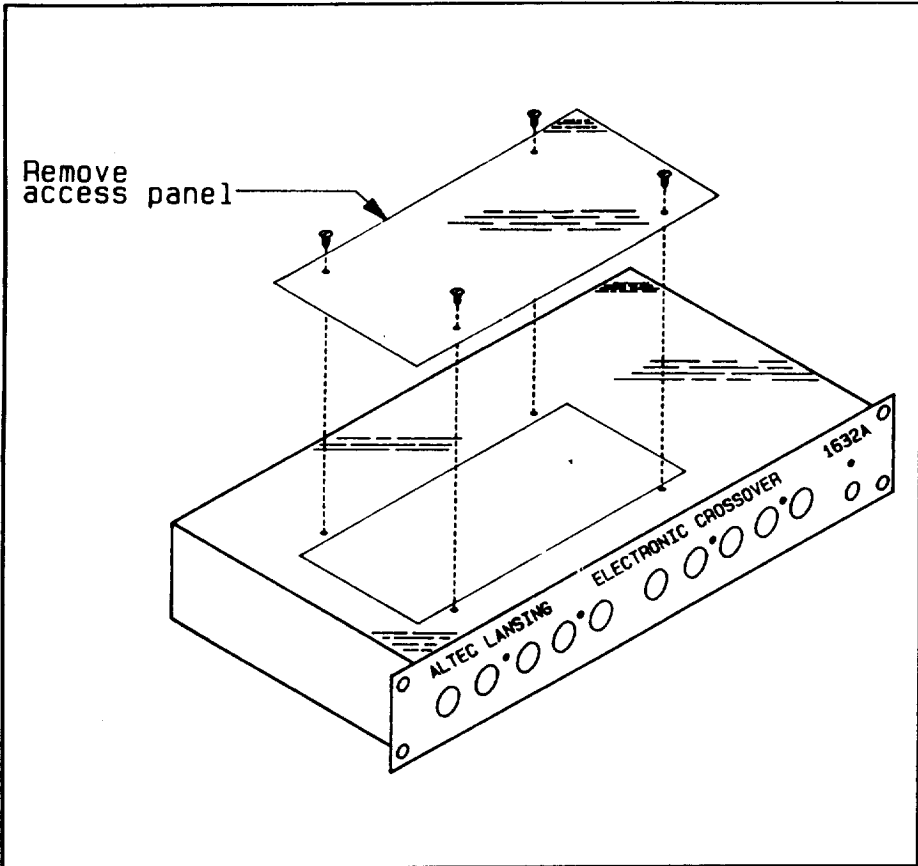
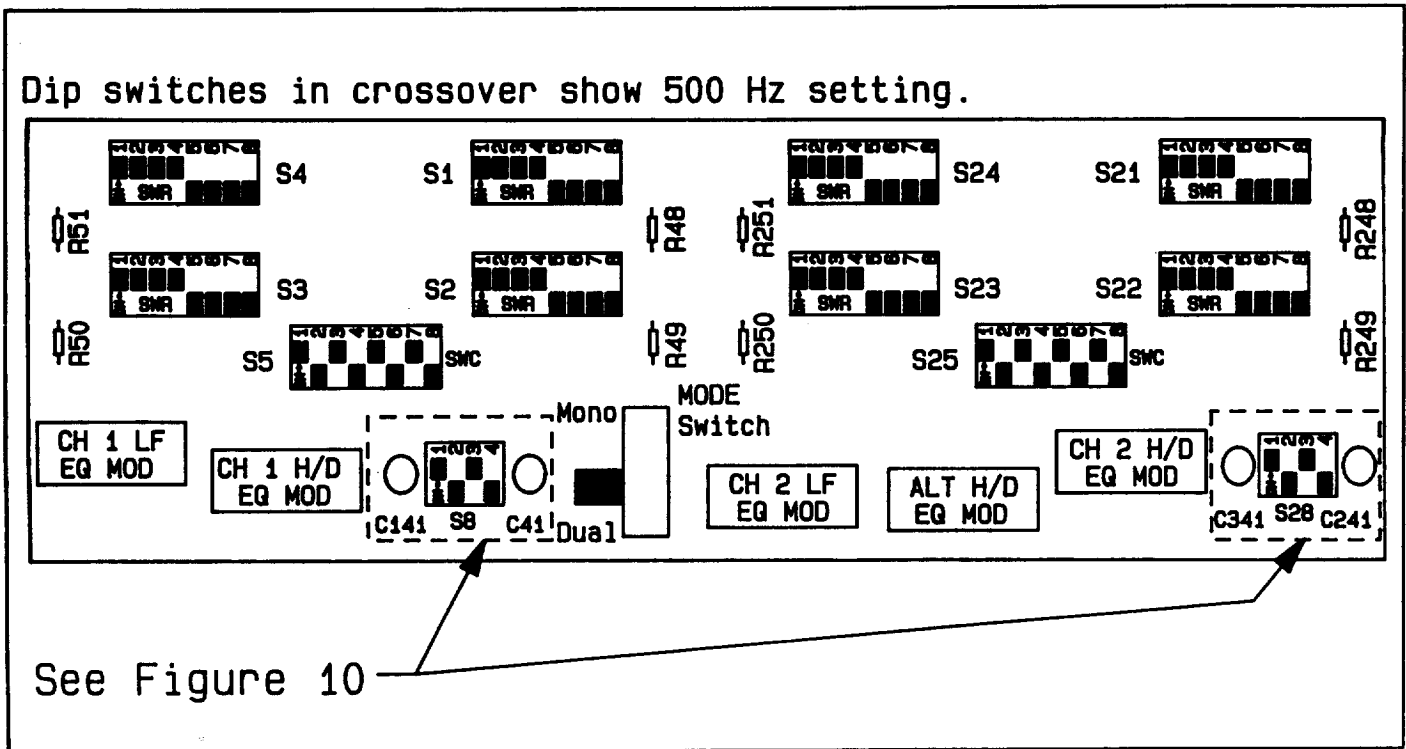
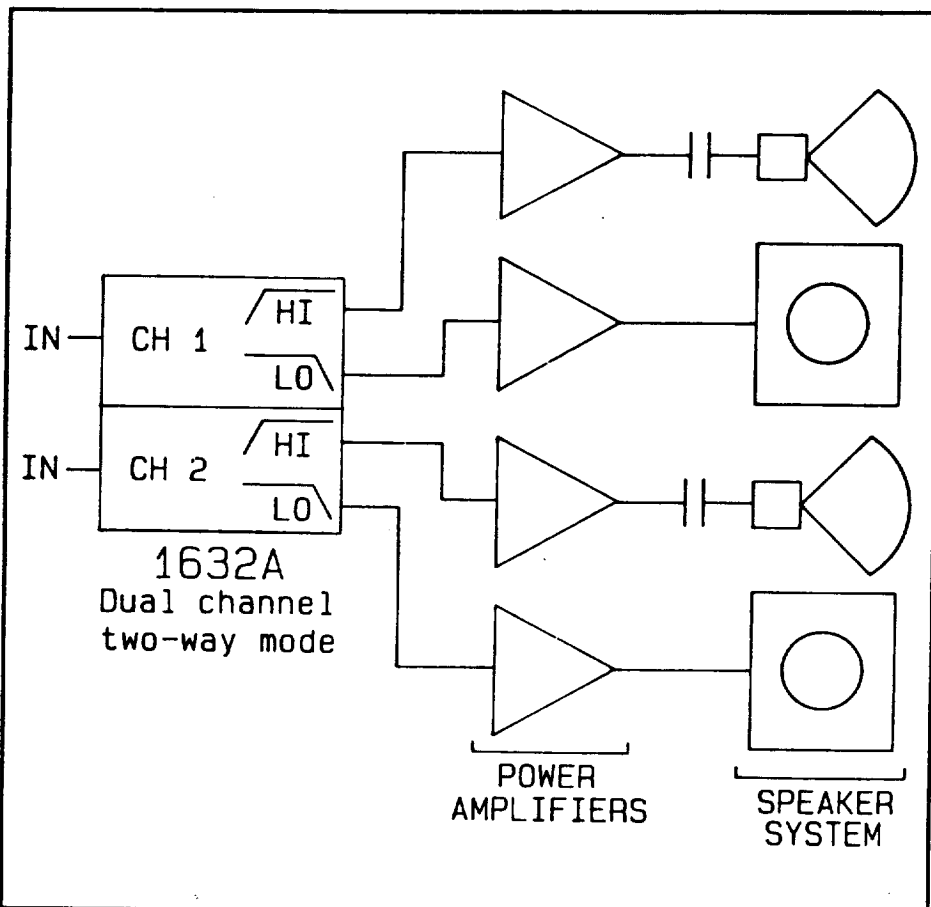
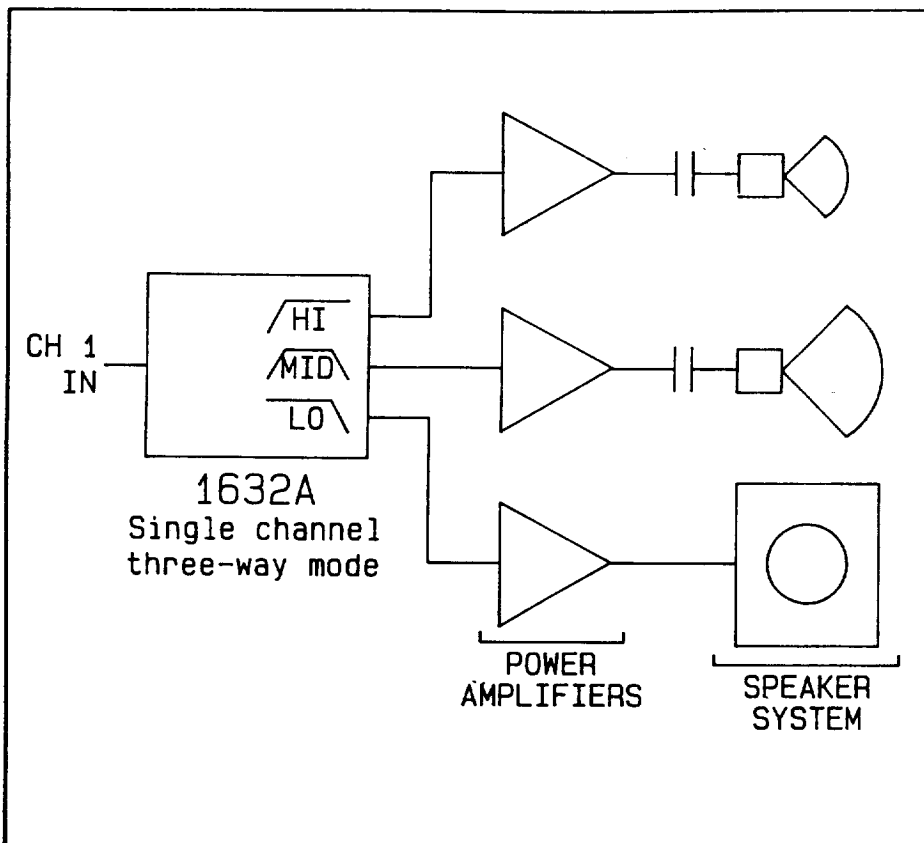

Figure 6. Access panel removal.
Figure 7. Location of pertinent components with access panel removed.
Figure 8. Typical bi-amplified sound system.
Figure 9. Typical tri-amplified sound system.
inside the unit. It is accessible by removing the panel on the top/back cover. See Figure 6. For exact mode switch location see Figure 7. Figure 8 shows the 1632A in the dual channel mode used in a typical bi-amplified system. Figure 9 shows the 1632A in the single channel
Each channel contains a crossover for use in the dual channel two-way mode as shown in the bi-amplified system in Figure 8. When used in the single channel three-way mode
1. Turn off power to the 1632A and remove (and save) the four screws that secure the access panel. See Figure 6 for details.
2. Locate the five DIP switch blocks for EACH crossover. There is one "C" switch block and four "R" switch blocks for EACH crossover. The "C" block in Channel 1 is labeled S5 and the "R" blocks are labeled S1, S2, S3, and S4. The "C" block in Channel 2 is labeled S25 and "R" blocks are labeled S21, S22, S23, and S24. Refer to Figure 7 for details.
**NOTE:** An example of a 500 Hz crossover setting is in Figure 7.
This modification is performed by adding four resistors to each crossover circuit. The resistor locations are designated by R48, R49, R50, R51 in Channel 1 and R248, R249, R250, and R251 in Channel 2. These are shown in Figure 7 and designated as "User Option" in the schematic diagram of Figure 13.
1. Turn off power to the 1632A and remove the access panel from the top/back cover. See Figure 6.
2. Find the resistor locations R48-R51 and/or R248-R251. Refer to Figure 7.
A special second-order underdamped filter has been incorporated into each of the low frequency outputs of the 1632A to provide the low frequency contouring necessary for "step-down" operation of bass speaker systems and/or high pass filtering of subsonic signals. See Figure 7 for exact locations. To provide a flat frequency response, a 1 MΩ resistor for RE2 is factory installed in each of the low pass outputs. Blank submodule assemblies are available for customized low frequency equalization. The resistor designations in the following calculations refer to the designations used in the schematic. Refer to Figure 13.
2. Find the appropriate equalization submodule location. Refer to Figure 7.